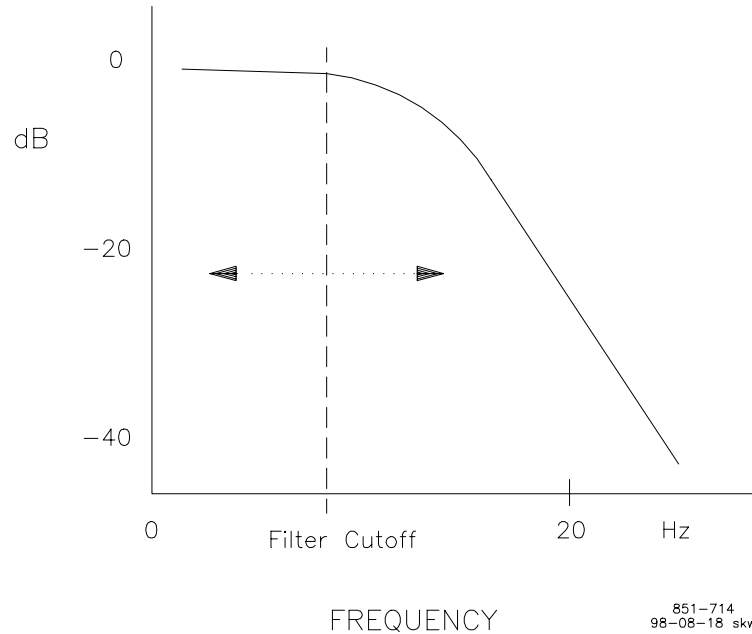

Figure 4-2. Speed Filter
- 06 SPEED FILTER FREQ 1 (HZ)** adjusts the cutoff frequency of a low pass filter used on the engine speed sensing input (see Figure 4-2). To use this feature set the cutoff frequency below 15.9 Hz. The filter is used to attenuate engine firing frequencies. To calculate the desired filter cutoff point, use the following formulas:
- 15 SPEED FILTER FREQ 1 (HZ)** adjusts the cutoff frequency of a low pass filter used on the engine speed sensing input (see Figure 4-2). To use this feature set the cutoff frequency below 15.9 Hz. The filter is used to attenuate engine firing frequencies. To calculate the desired filter cutoff point, use the following formulas: